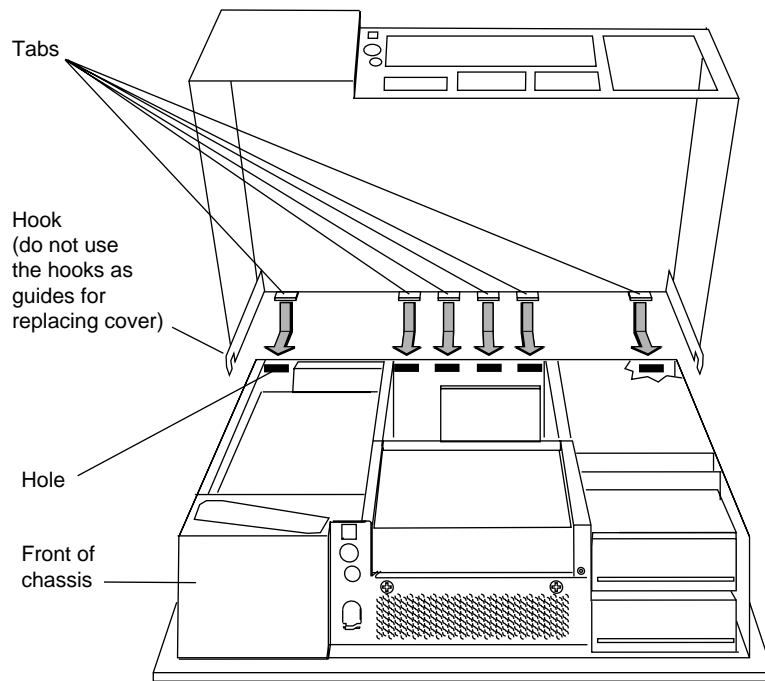

Figure 1-10 Looking Through the Holes to Place the Tabs
1. Locate the tabs on the inside and back of the top cover and the holes on the back of the workstation. See Figure 1-10.